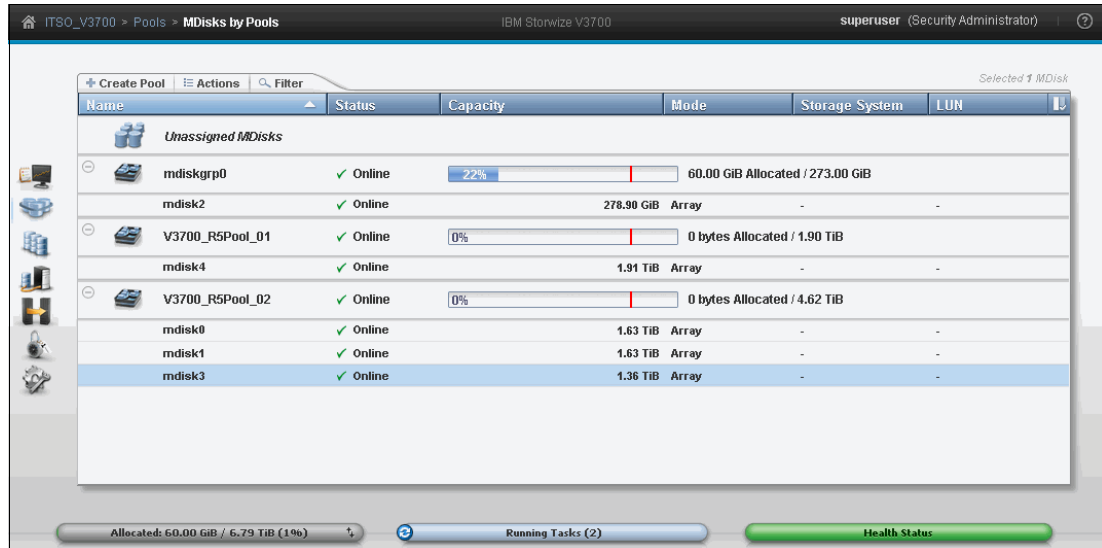

Figure 7-59 Pool window
- Using the MDisk by Pools window (as shown in Figure 7-59), you can manage internal and external Storage Pools. All existing Storage Pools are displayed row-by-row. The first row features Unassigned MDisks, which contains all unmanaged MDisks, if any exist. Each defined Storage Pool is displayed with the following information: